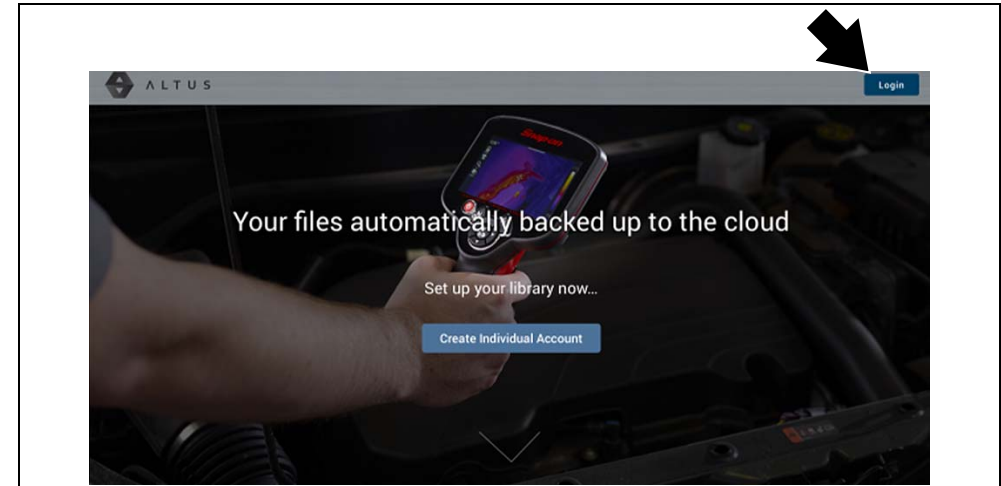

Figure 12-3
2. Select the **Login** icon (Figure 12-3).